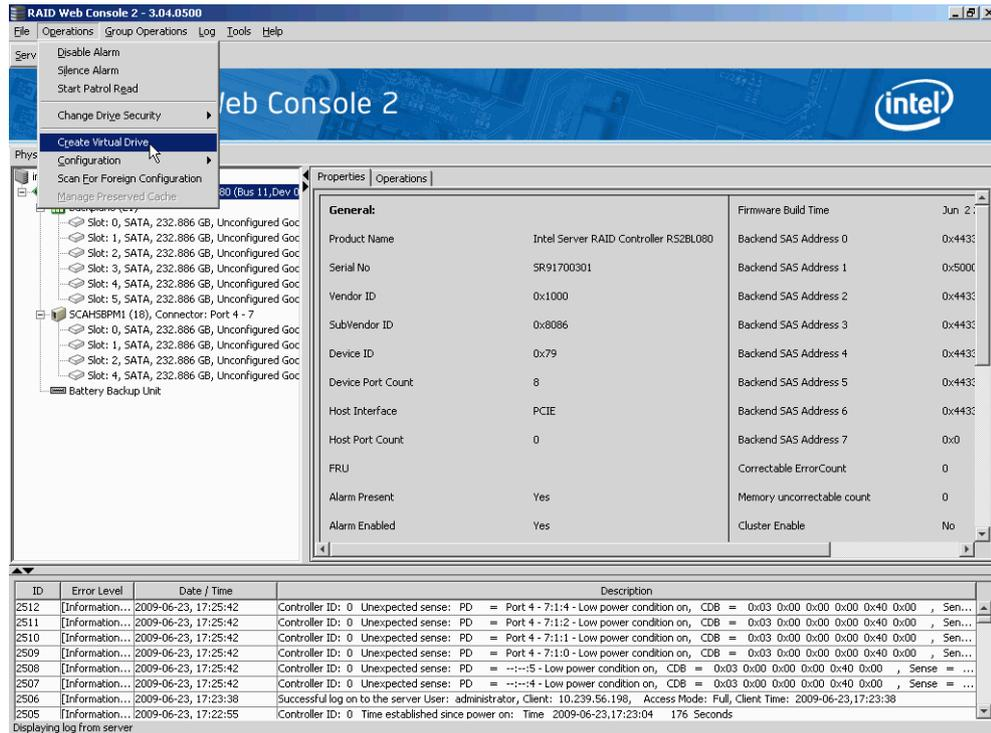

Figure 175. Virtual Drive Creation Menu
- Select the controller node and select **Operations** -> **Create Virtual Drive** in the menu bar, as shown in Figure 175.